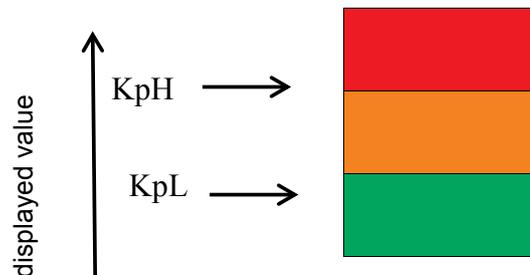

Fig. 7. display color configuration
a) display colors of the measured value. The display range is divided into three areas separated by threshold values KpL and KpH (respectively lower threshold KpL and upper threshold KpH of the change of the display color - Fig. 7). The color of displayed numbers for each area is selected from three available colors: green, orange and red. The KpL and KpH values are set by the user and refer to the displayed value (i.e. also include individual characteristics). By default, the KpL value is equal to 100% of the nominal value, while KpH is equal to 110% of the nominal value, e.g.: for the 400 V meter: for KpL - 400 V and for KpH - 440 V respectively.